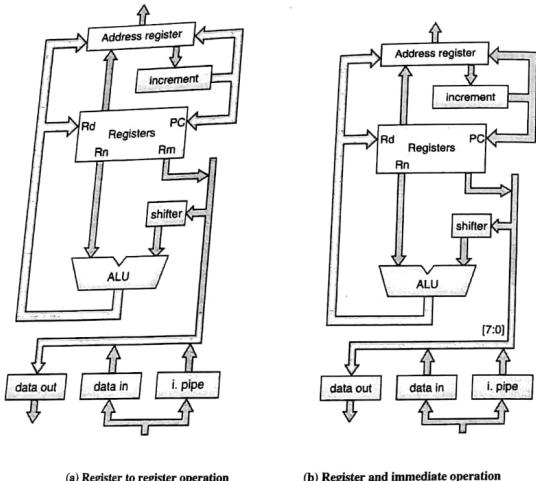

Fig. 12.6.3 : Data processing instruction execution
3. The source operands are given to the ALU, with one operand as register  $R_n$ . The second operand can be either a register i.e.  $R_m$  or its value shifted / rotated as specified in the instruction. Fig 12.6.3 shows the flow with dark arrows, wherein the operation to be performed by the shifter and the ALU depends as specified in the instruction. There are two cases possible i.e. either the second operand is in the register or is an immediate data. These are shown in the Fig. 12.6.3 (a) and Fig. 12.6.3 (b)
The flow of the address and the instruction is shown by dark arrows in Fig. 12.6.3. The two cases as discussed are based on the second operand being register or immediate data.